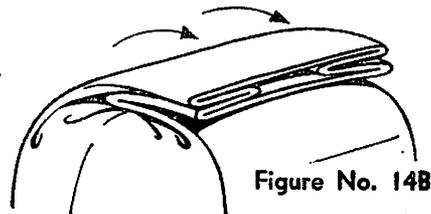

Figure No. 14B
- B. Next, fold or "break" top of bag sharply over contents. (See Figure No. 14B.)